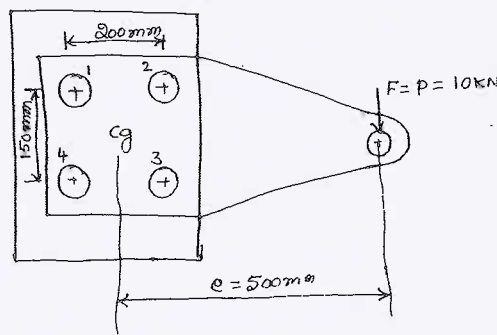

Fig.Q4(b)
b. The structural connection shown in Fig.Q4(b) is subjected to an eccentric load  $P$  of  $10$  kN with an eccentricity of  $500$  mm. The centre distance between bolts at 1 and 3 is  $150$  mm and the centre distance between bolts at 1 and 2 is  $200$  mm. All bolts are identical. The bolts are made of plain carbon steel having yield strength in tension of  $400$  MPa and the factor of safety is  $2.5$ . Determine size of bolts.